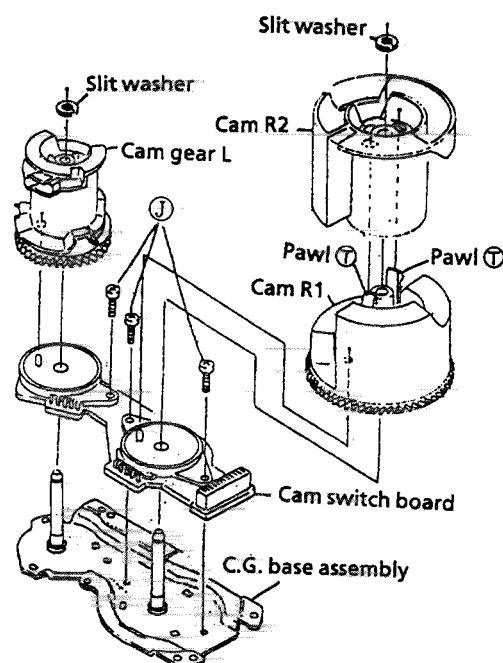

Fig. 2-22
(See Fig. 2-22.)
Remove 3 screws ① securing the C.G. base ass'y. (See Fig. 2-22 and 2-23.)